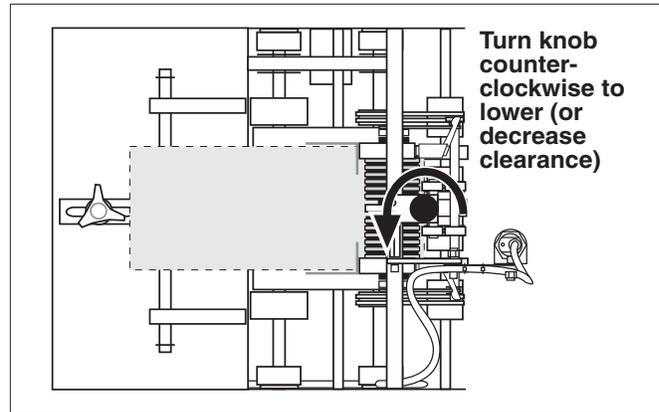

Figure 17. Adjusting Gate Assembly for Correct Gap
3. Adjust the knob on the gate assembly until the piece has the desired drag. Turn the knob clockwise to increase clearance or counterclockwise to decrease clearance (figure 17).